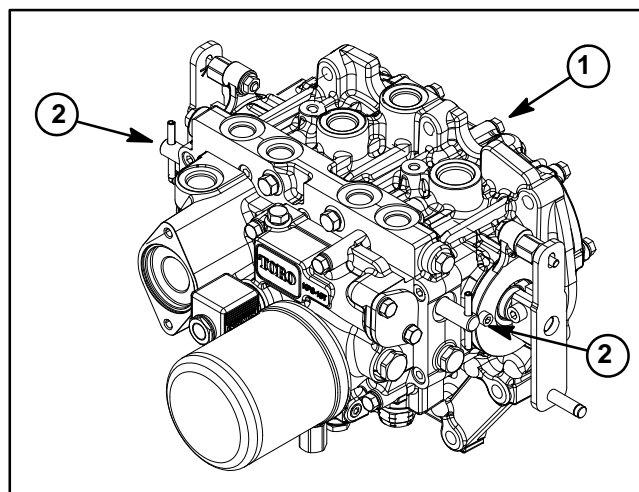

Figure 1
2. Locate two (2) bypass valves on transmission (Fig. 1). Loosen (rotate counterclockwise) both of the valves from one (1) to two (2) turns.